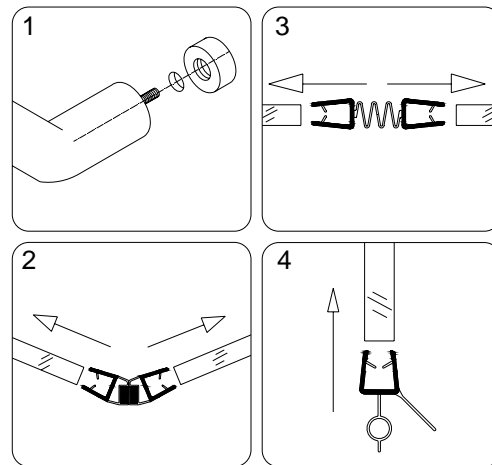

Fig 6
6. Install the **Handle (08)** to the glass door. Locate the vertical handle and horizontal handle. The horizontal handle will be on the outside and the vertical handle will be on the inside of the door. Start the installation from the outside which will involve the horizontal handle first. Don't forget to use the rubber gaskets between the glass and washers. See Fig.6 (Image 1) for details.
7. Push on the **Connected anti-water strip (14)** to seal between the glass door and the stationary glass. Install the **Magnetic Strips (13)** and **Bottom anti-water strip (15)** on the door. See Fig.6 (Images 2-4) for details.